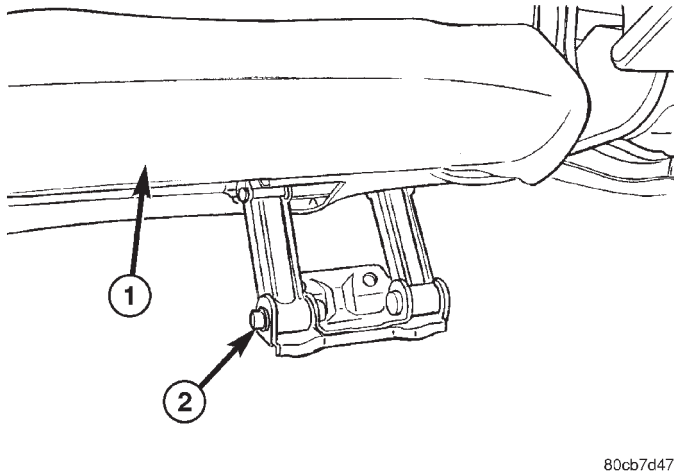

Fig. 6 CENTER CUSHION HINGE
- (1) Remove the seat assembly. (Refer to 23 - BODY/SEATS/SEAT - REAR - REMOVAL)
- (2) Remove the front seat cushion hinge bolt. (Fig. 6)